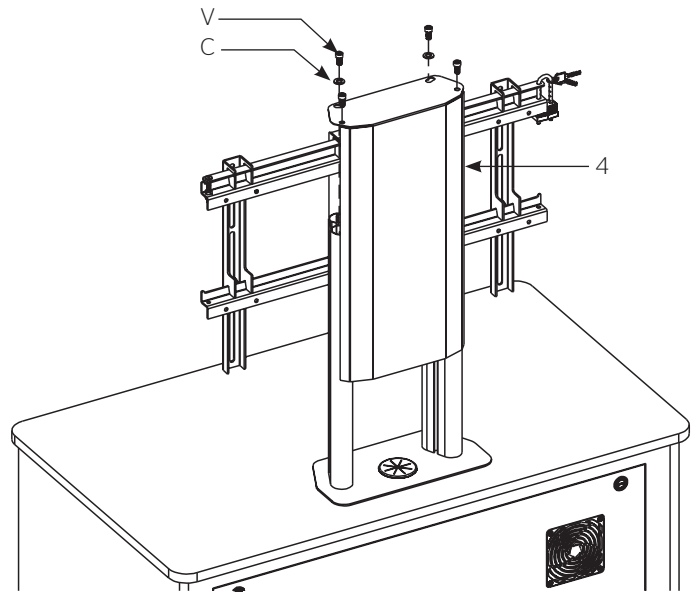

Figure 8
- Install Cover. See Figure 8.